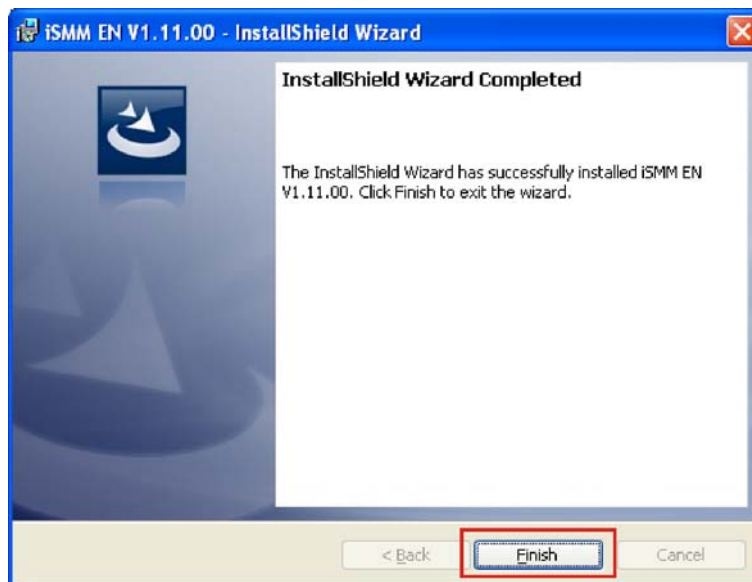

Figure 6-36: iSMM InstallShield Wizard Complete
Step 20: The InstallShield Wizard Completed appears when the drivers are finished installing. (Figure 6-36)
Step 21: Click **FINISH** to exit the installation program.(Figure 6-36)